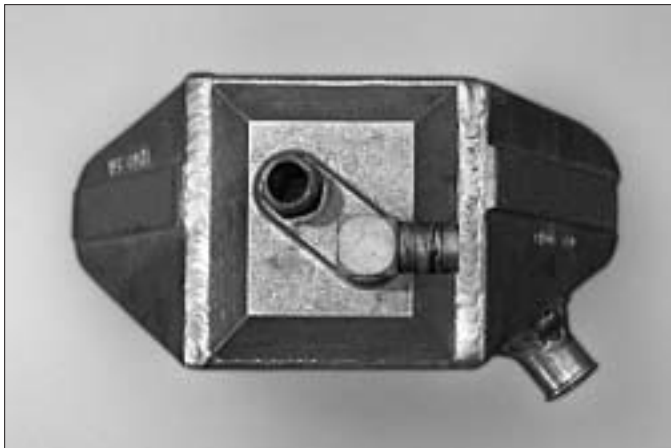

Fig. 13-a
- A. Install the 1/2" NPT x 3/4" 90° and straight brass fittings into the charge air cooler using thread sealant on the threads. (See Fig. 13-a.)